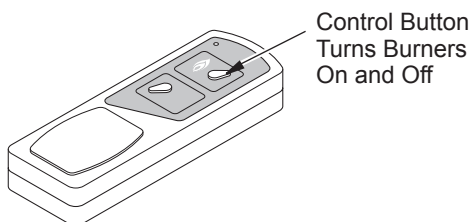

Figure 41 - On/Off Hand-Held Remote Control Unit GHRCB
2. Press the control button on the hand-held remote to turn the burner on. Press the control button again to turn burner off (see Figure 41).